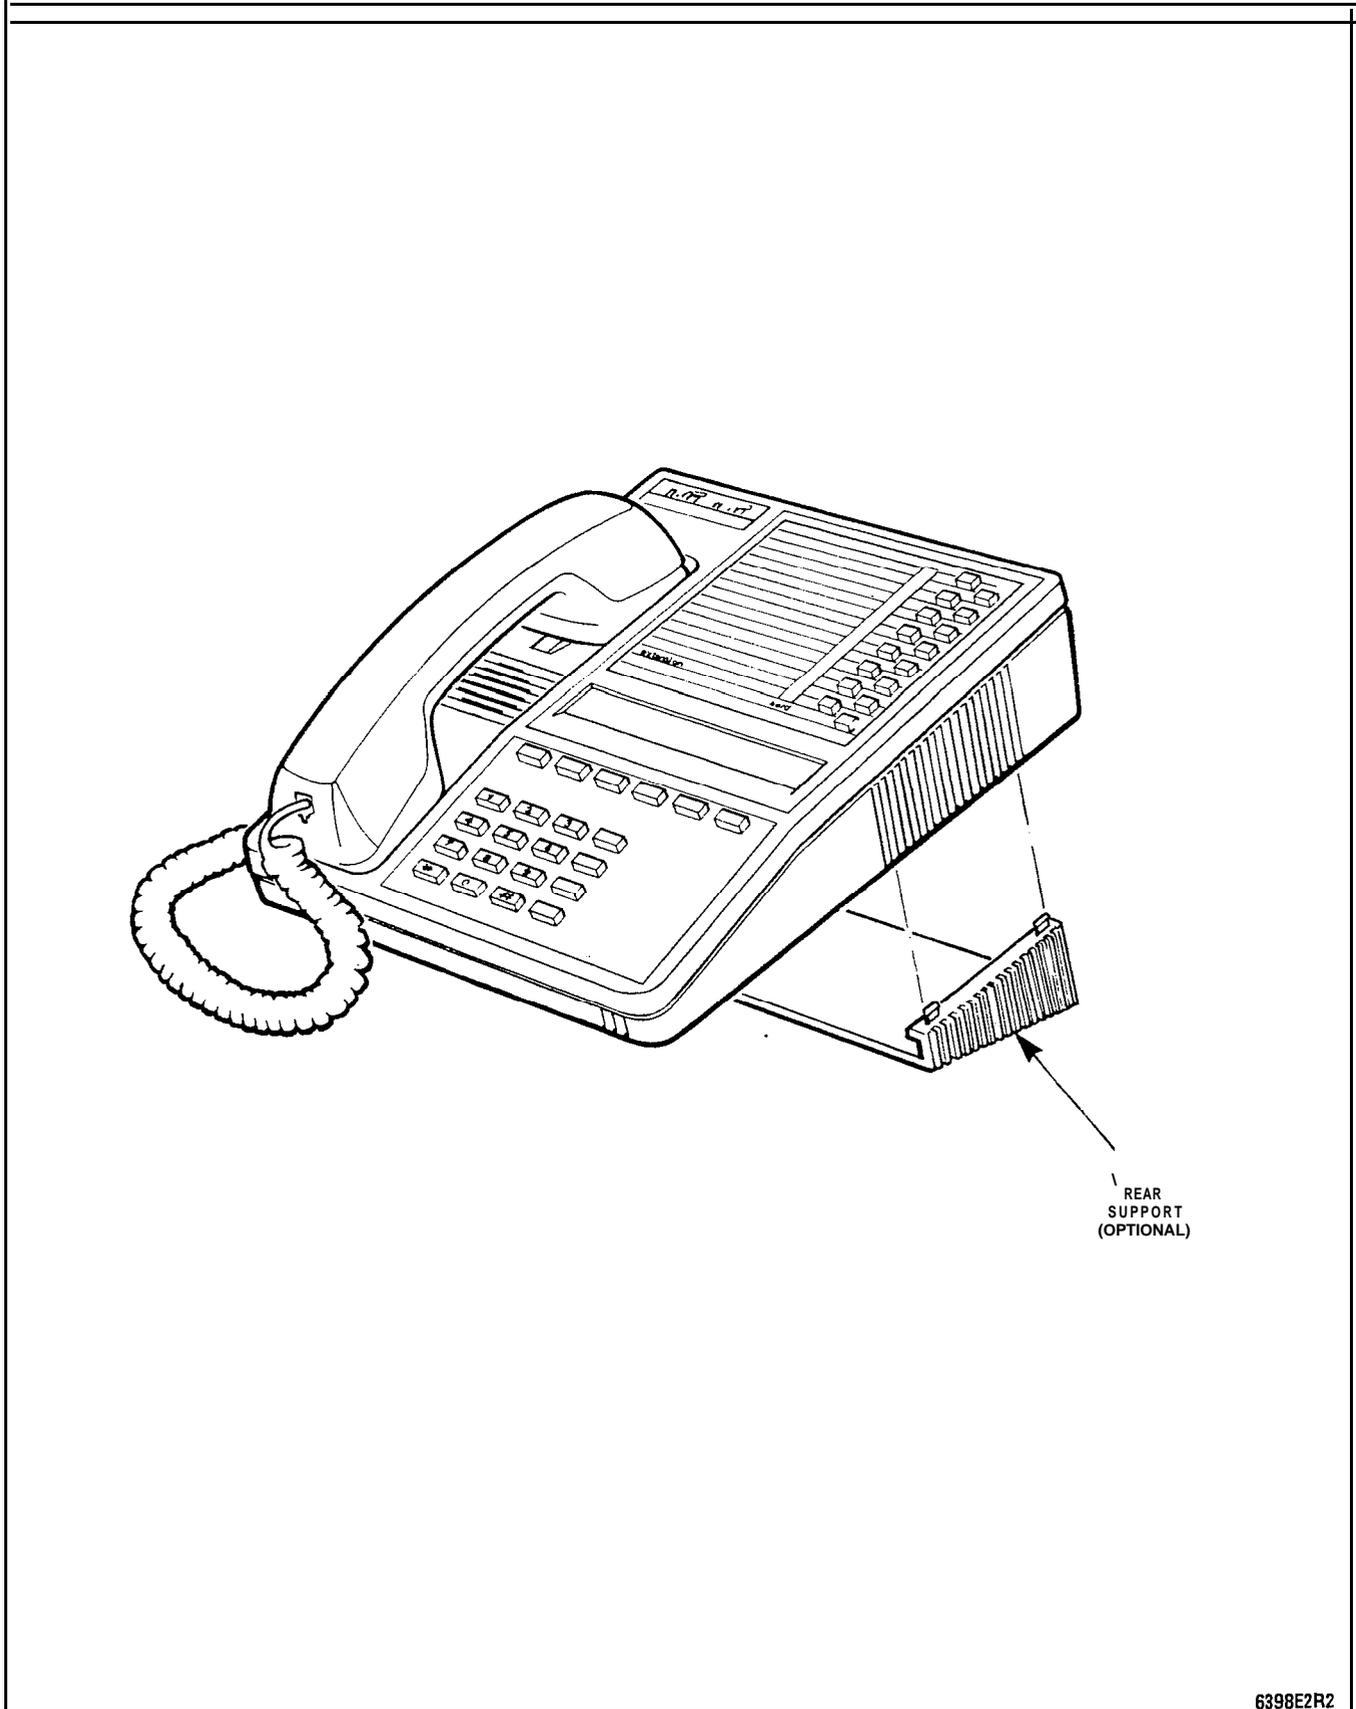

Figure 3-3 SUPERSET 4 Telephone and Optional Support
3.03 An optional rear support can be clipped in position beneath the set. This would be used when the set is likely to be placed some distance from the user (Figure 3-3).